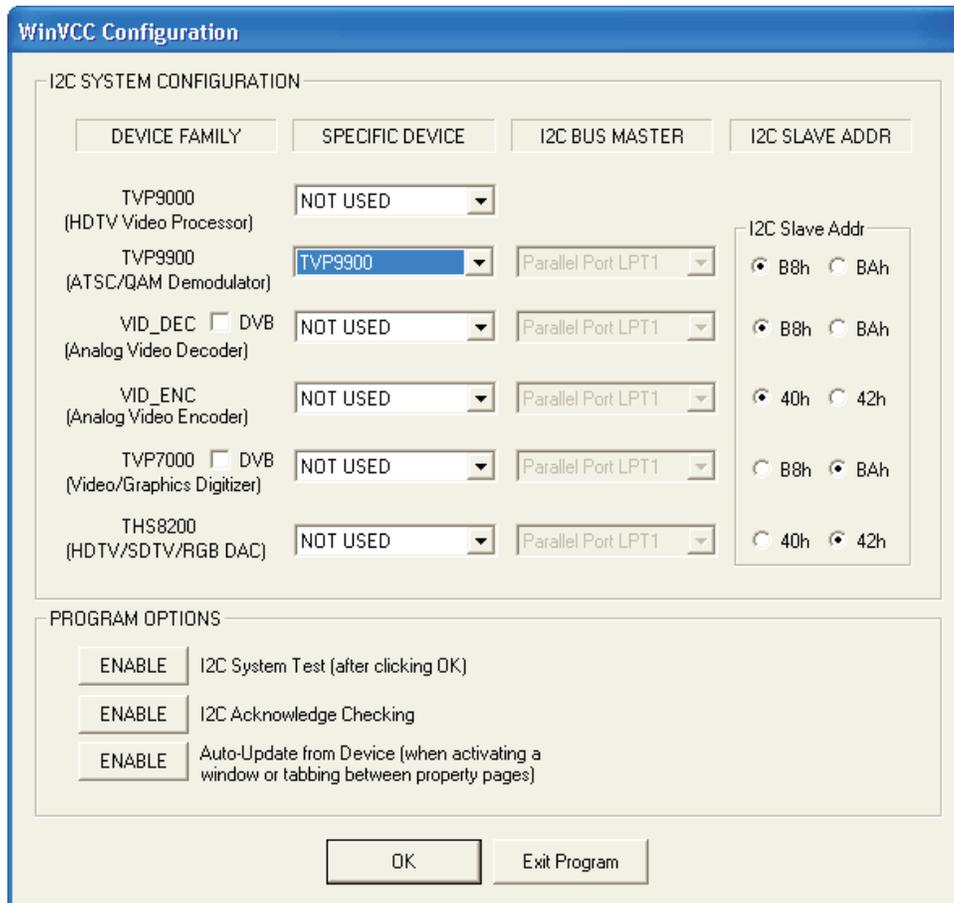

Figure 3. WinVCC – I²C Configuration Screen
1. Once WinVCC is executed, the WinVCC Configuration screen appears, as shown in Figure 3. This dialog box configures the I²C bus. Next to TVP9900, select the TVP9900 and ensure the I²C address is set to 0xB8 (default setting on EVM.) This must match the I²C ADDR jumper on the TVP9900 board.